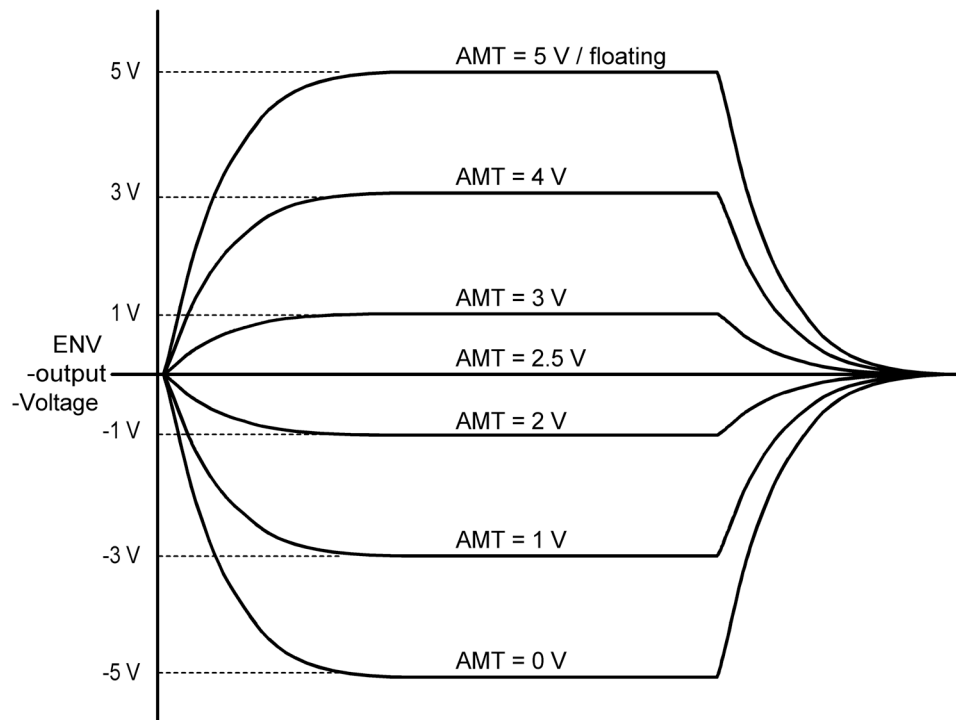
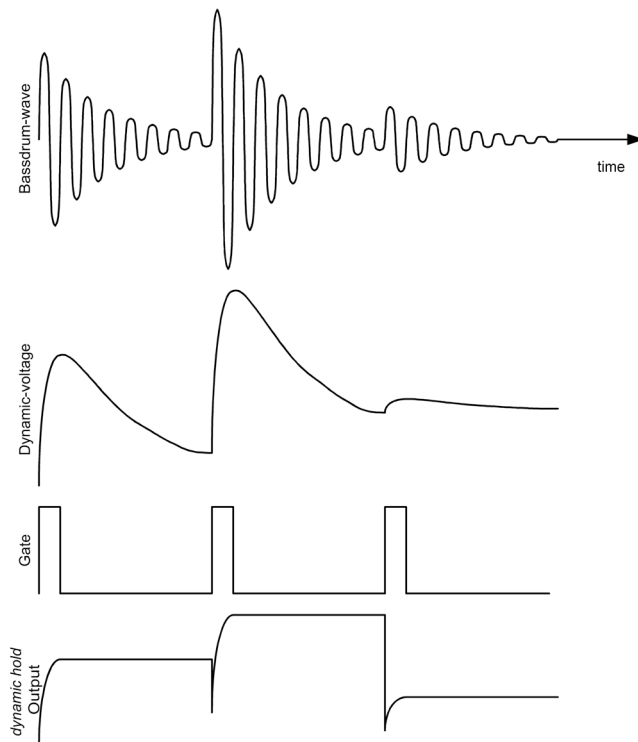

Fig. 9.5.6 Bipolar envelope modulation with the "AMT"-input of the multiplier
Fig. 9.5.7 The dynamic hold-function
Both envelope signals can be accessed at the rearpanel socket **"ENV OUT" (20)**. They are provided bipolar (in positive and negative directions) as shown in fig. 9.5.6. The final level of the envelope can be shifted in both directions - positive up, negative down. As shown in fig. 9.5.6, zero Volts at the multiplication input results in an inverted envelope with -5 Volts as maximum value.
The upper graph in fig. 9.5.7 corresponds to the waveform of an e.g. kickdrum. The graph below shows the resulting voltage curve, derived from the **dynamic**-module (see. chapter 9.1.). When a gate-pulse at the start of every kickdrum (3. graph) is sent to the trigger input of the envelope generator, each "kick" opens the gate of the *dynamic hold*-function. This is explained in the lower graph.
The effect of the **dynamic hold outputs** (see. also fig. 9.5.7, down) on the envelope (see. chapter 9.5.3) is equal to the "**AMT1/2**"-input, according to the graphs in fig. 9.5.5 and fig. 9.5.6. To determine explicit voltage levels, see the values at the sockets „**DYN OUT**“ (**7**)/**RING** (s. chapter 9.1)
**back: (20)(TIP/RING) ENV1/2 OUT**
**TIP** and **RING** of socket **(20)** provide the envelopes voltages **ENV 1** resp. **ENV 2** bipolar as explained in fig. 9.5.6.